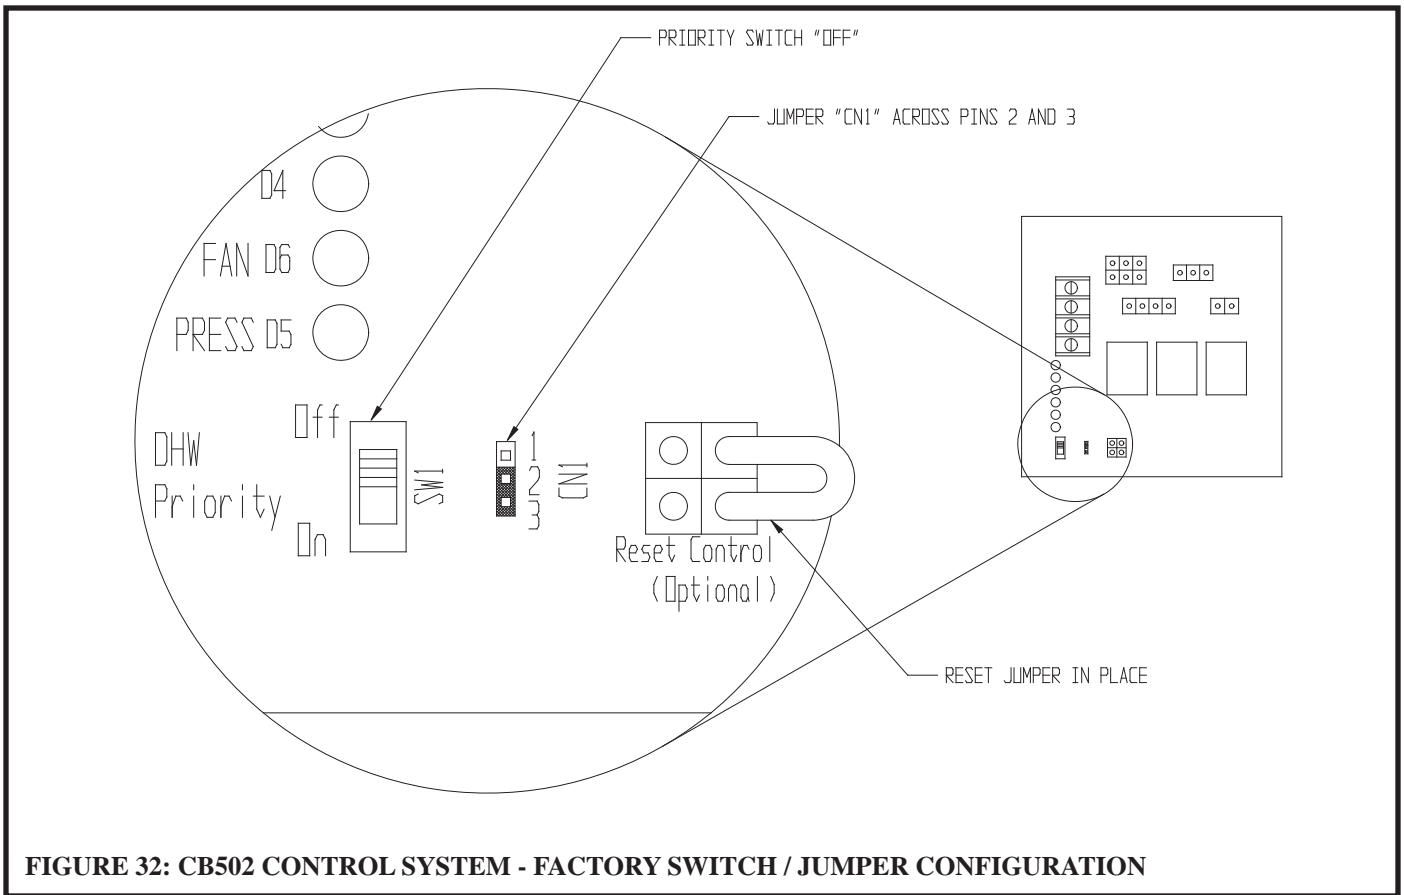

FIGURE 32: CB502 CONTROL SYSTEM - FACTORY SWITCH / JUMPER CONFIGURATION
- 5) **Auxiliary Jumpers** – Two jumpers are located on the relay board as shown in Figure 32. They are present for connection and configuration of an auxiliary control. Unless instructions provided with the control call for these jumpers to be moved, they should remain as shown in Figure 32.